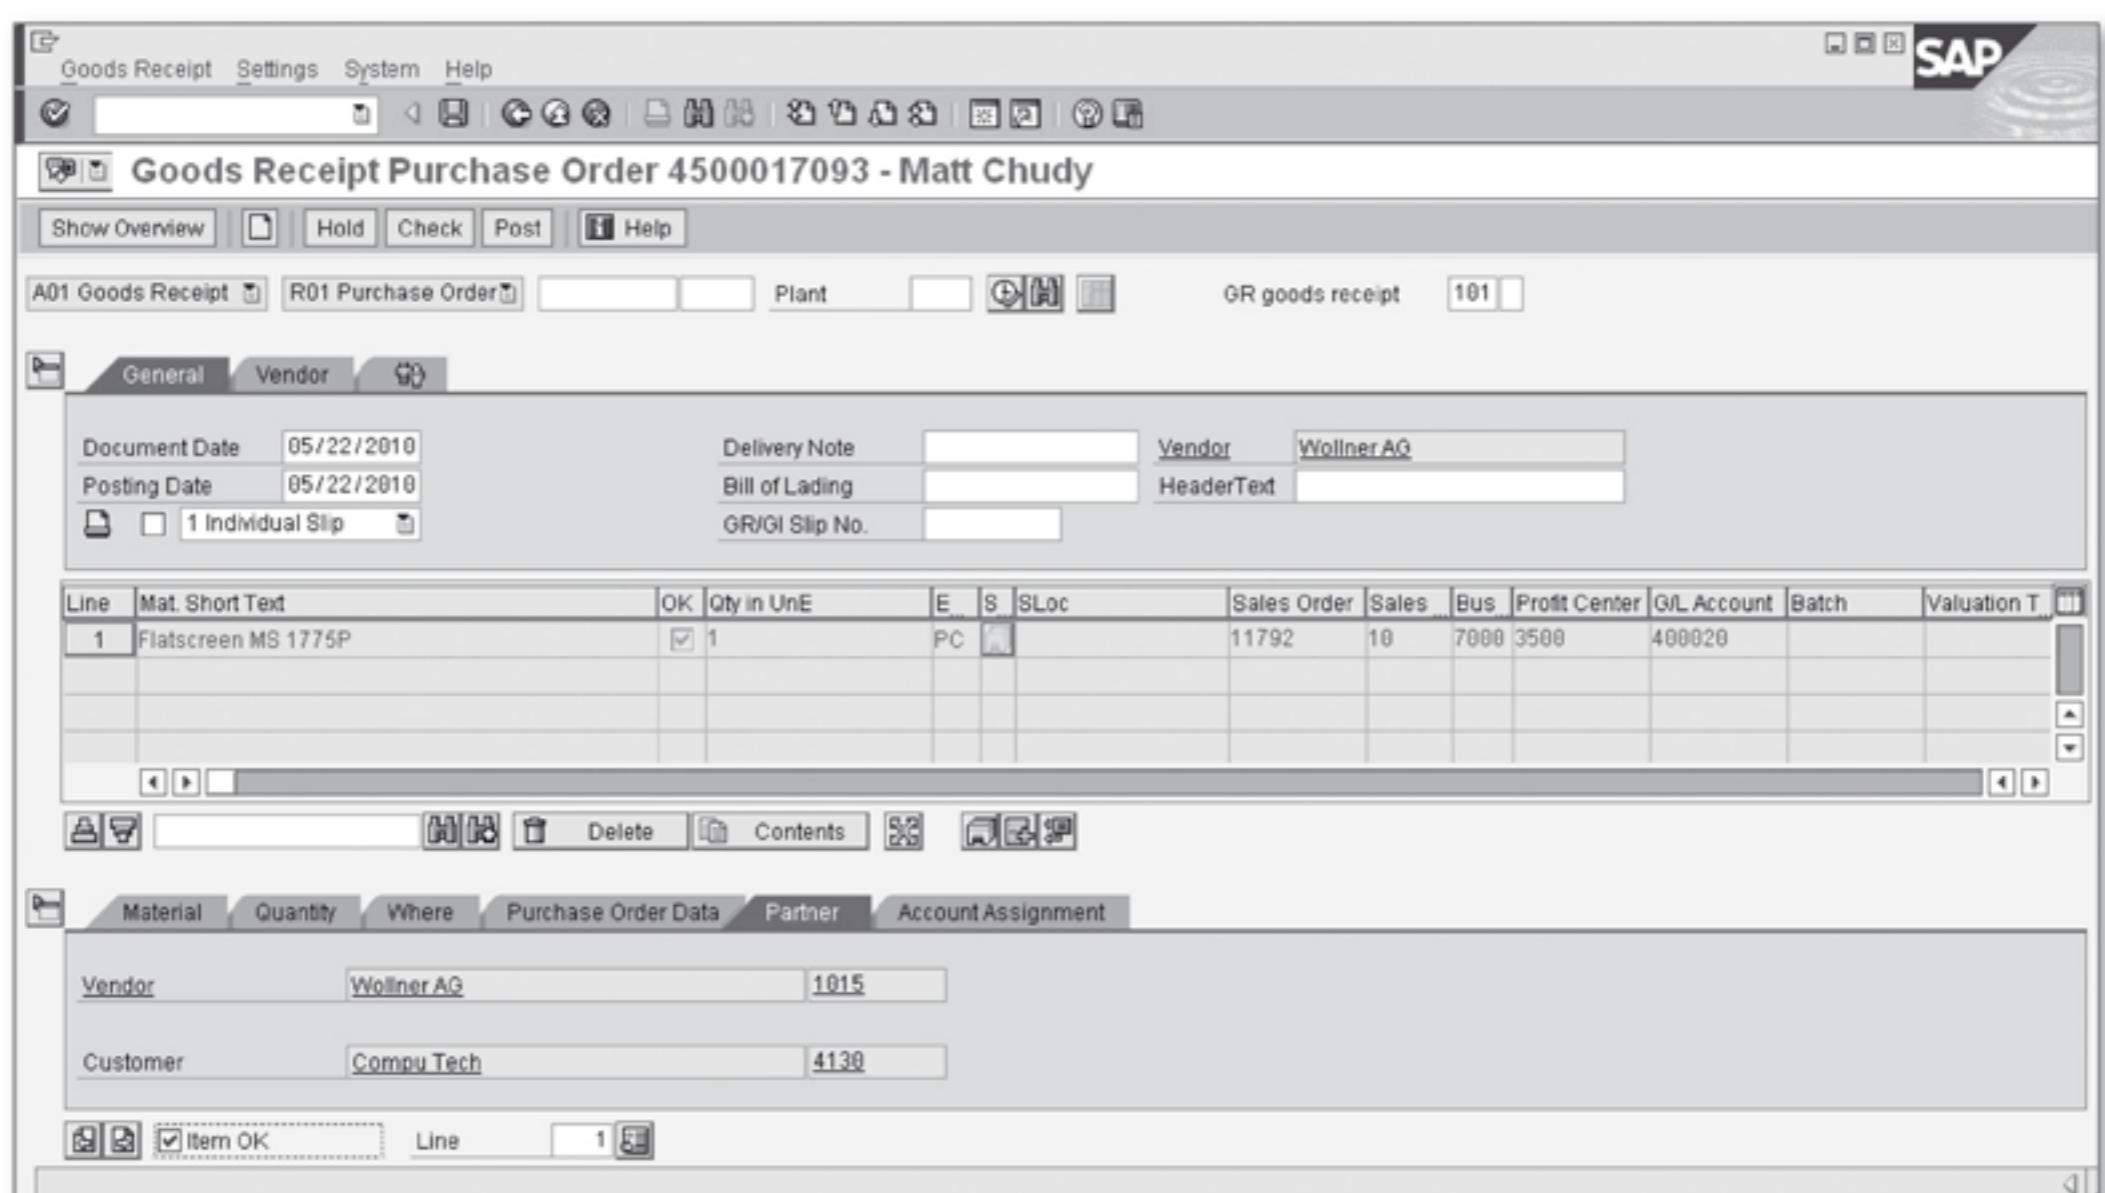

Figure 3.66 Goods Receipt for Purchase Order – Overview Screen
2. Then you verify that all of the data is correct and mark the checkbox Item OK on the bottom of the MIGO screen. Figure 3.66 shows the Partner data tab during the goods receipt entry transaction.